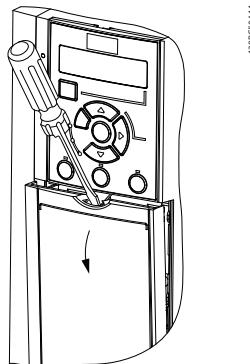

Figure 4.4 Control Wiring Access
- Remove the cover plate with a screwdriver. See *Figure 4.4*.